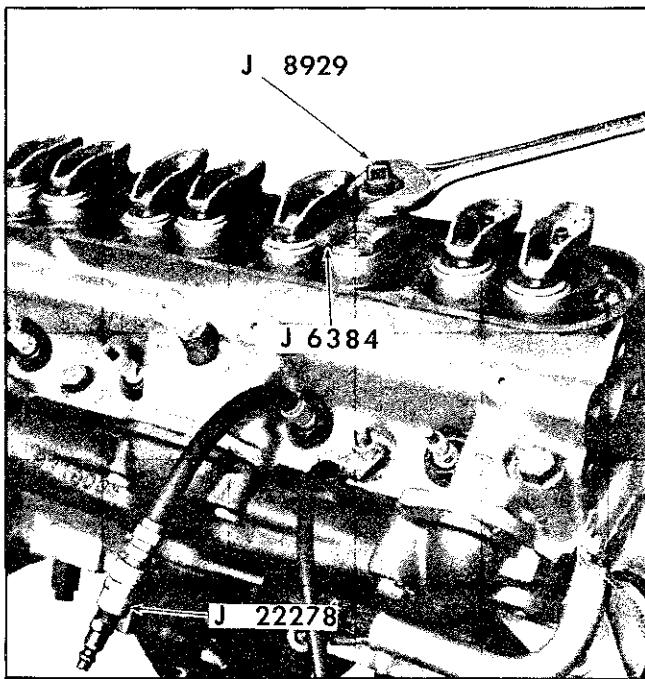

Fig. 6-78 Compressing Valve Spring
VALVE SPRINGS, SHIELD OR SEAL— REMOVE AND REPLACE (Figs. 6-78, 6-79 and 6-80)
4. After removing rocker arm, thread valve spring compressor stud J 8929-1 on rocker arm stud and compress valve spring, using compressor J 6384-1 and nut J 8929-2. (Fig. 6-78). Remove valve spring retainer cup locks and then remove valve spring compressor, valve spring retainer cup shield and valve stem seal.